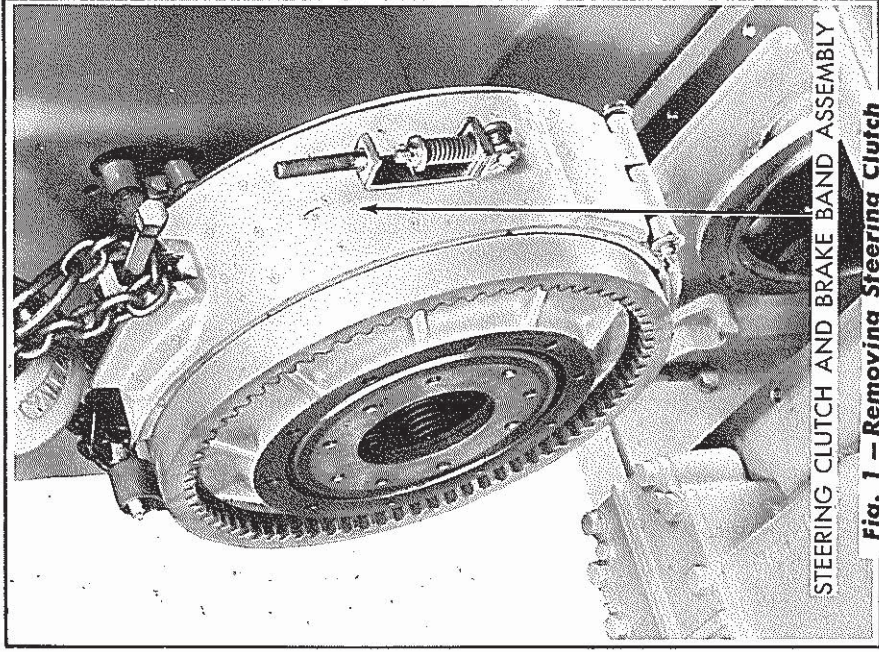

Fig. 1 - Removing Steering Clutch
8. Using a small chain hooked around the brake band adjuster and around a suitable $\frac{3}{8}$ " bolt or rod inserted in the lower end of the brake band as shown in Fig. 1, lift the steering clutch assembly out of the compartment: **NOTE: Before lifting the clutch in this manner, turn the brake band on the brake drum so that the brake band adjuster is as far forward as possible, then place the lifting hook on the small chain as near to the adjuster as possible.** With the band turned in this position, the brake band adjustment support (at the rear of the band) will be turned forward far enough so that it will clear the top rear of the clutch housing as the clutch is lifted from the compartment.